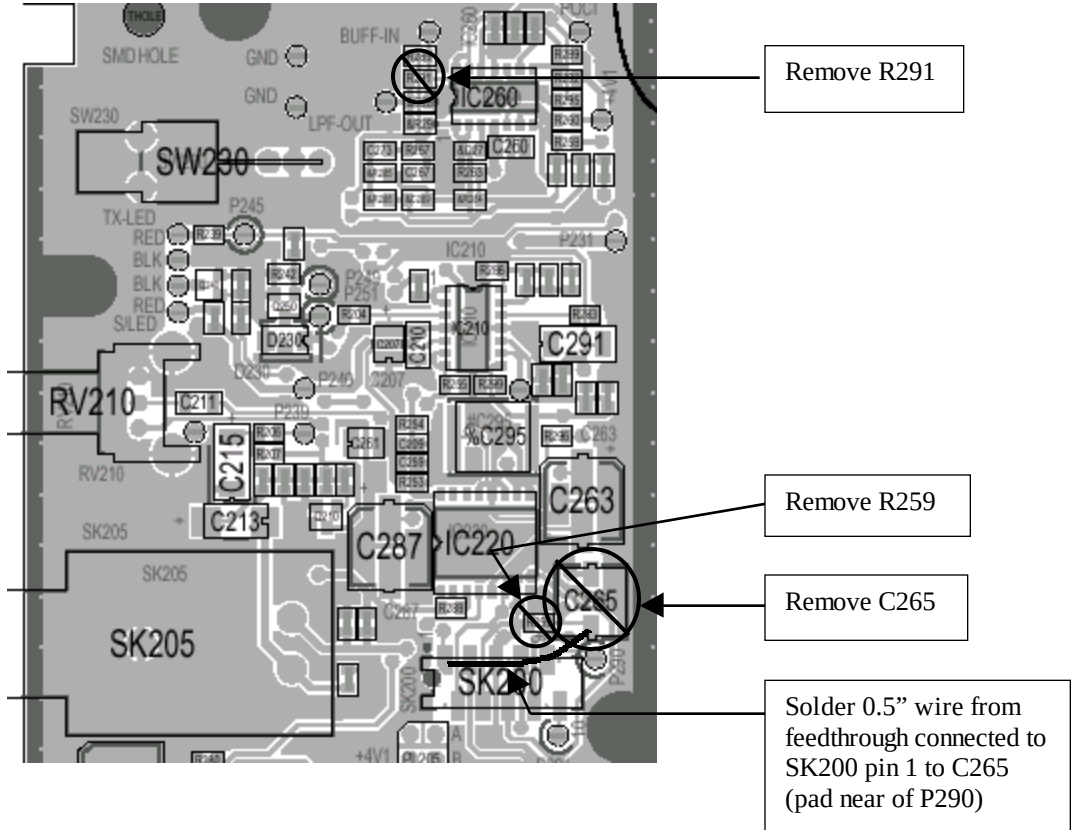

Figure 4 - T857 Exciter PCB (rev 220-01398-04),Top Side 1/2
Refer to Figure 4 page 7
8. Solder a short wire (gauge 26, 0.5" long) from feedthrough connected to SK200 pin 1 to C265 negative side pad (pad near of P290). Refer to Figure 4 page 7